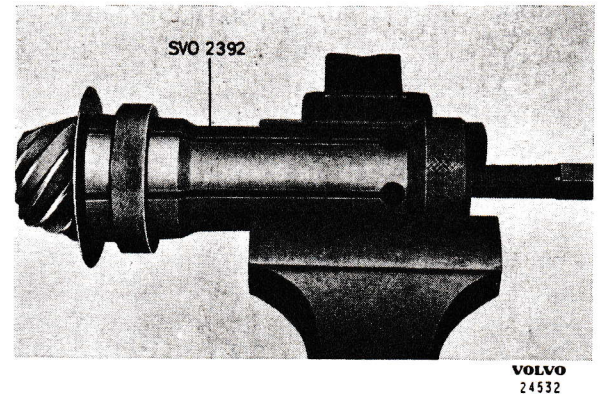

Fig. 13. Removing the rear pinion bearing.
11. If necessary pull off the rear bearing (29) from the pinion (28) by using puller SVO 2392, see Fig. 13. The puller is fitted in the following way: Slide the puller down over the rollers and press down the lock ring. Then tighten the puller with the screw until the rollers are against both the edge on the inner race and the edge on the puller. Strike the lock ring with a hammer.